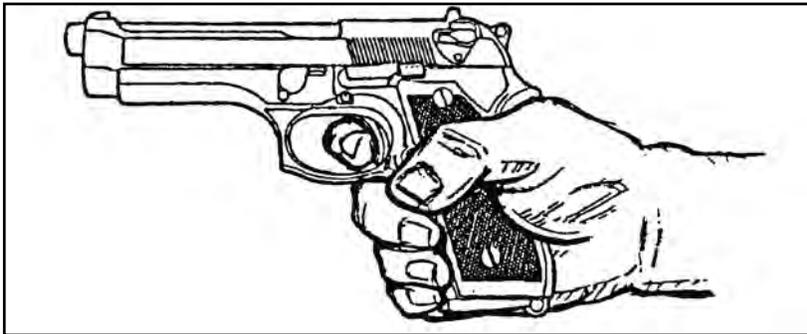

Figure 071-004-0006-2. One-hand grip
b. Unsupported grips. You may use any of three nonfiring hand grips to support your firing hand (figure 071-004-0006-3, figure 071-004-0006-4, and figure 071-004-0006-5).